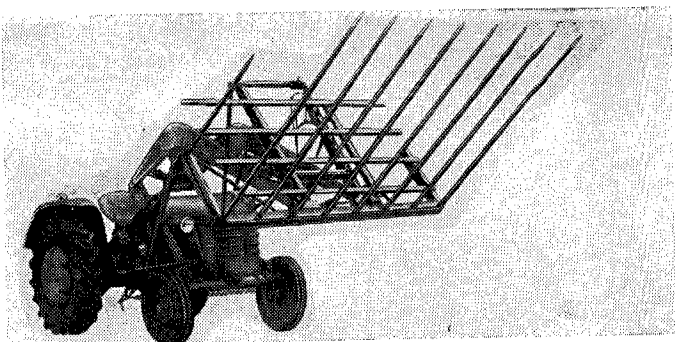

Fig. 12
- c) P. T. O. shaft and hydraulic pump simultaneously (Fig. 12).